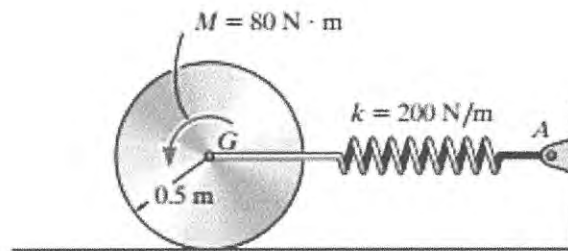

Figure Q2
- Q2** The 30-kg disk is originally at rest (figure Q2), and the spring is unstretched. A couple moment of  $M = 80 \text{ Nm}$  is then applied to the disk as shown. The disk rolls without slipping.